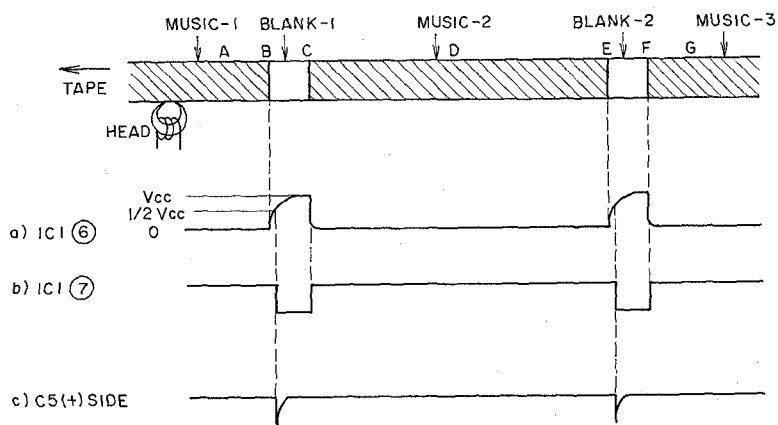

Fig. 9
- (b) When the tape comes to portion B in Fig. 9, the signal components on the tape will disappear. Since no signal comes to the base of the TR1, it will be turned off. With the TR1 at the OFF position, terminal ⑥ of the IC1 will be at a high level while terminal ⑦ of the IC1 will be at a low level. As shown in Fig. 9 c) the C5 causes the TR2 to have a base potential lowered and the TR2 will be turned on. With the TR2 positioned at ON, the TR4 and TR8 will be turned on while TR6 will be at the OFF position. As a result, solenoid SL901 will operate and release the FF key, thus putting the system into the PLAYBACK mode.
Depressing the PLAY and FF keys at a time in Blank 1 on the tape as shown in Fig. 9 will turn the TR1 off. As a result, terminal ⑥ of the IC1 will be at the high level while terminal ⑦ of the IC1 will be at the low level. Since no pulse comes out of the C5, therefore, the TR2 is at the OFF position and solenoid SL901 does not operate. Beyond the next MUSIC-2 portion, the same operation as referred to in preceding paragraph 2)-(b) will be performed. In other words, a piece of music is skipped and then the system is put in the PLAYBACK mode when the PLAY and FF keys are depressed from the blank portion on the tape.